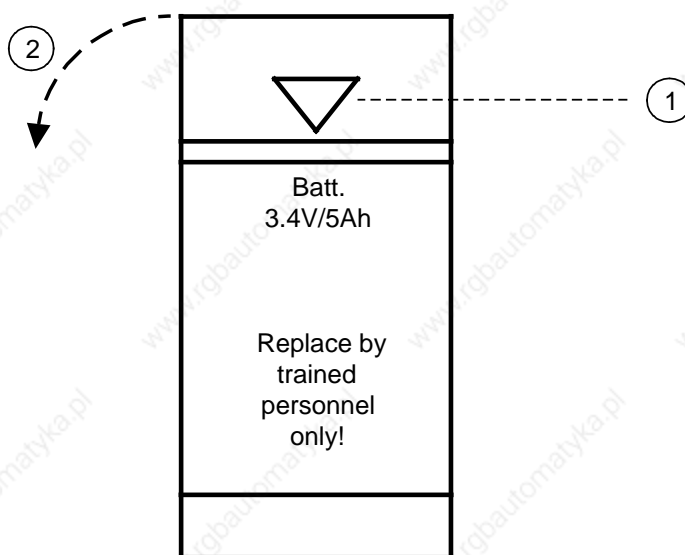

Figure B-1. Opening the Battery Compartment
1. Open the battery compartment as follows (see Figure B.1)
1. Open the battery compartment door (see Figure B.1)